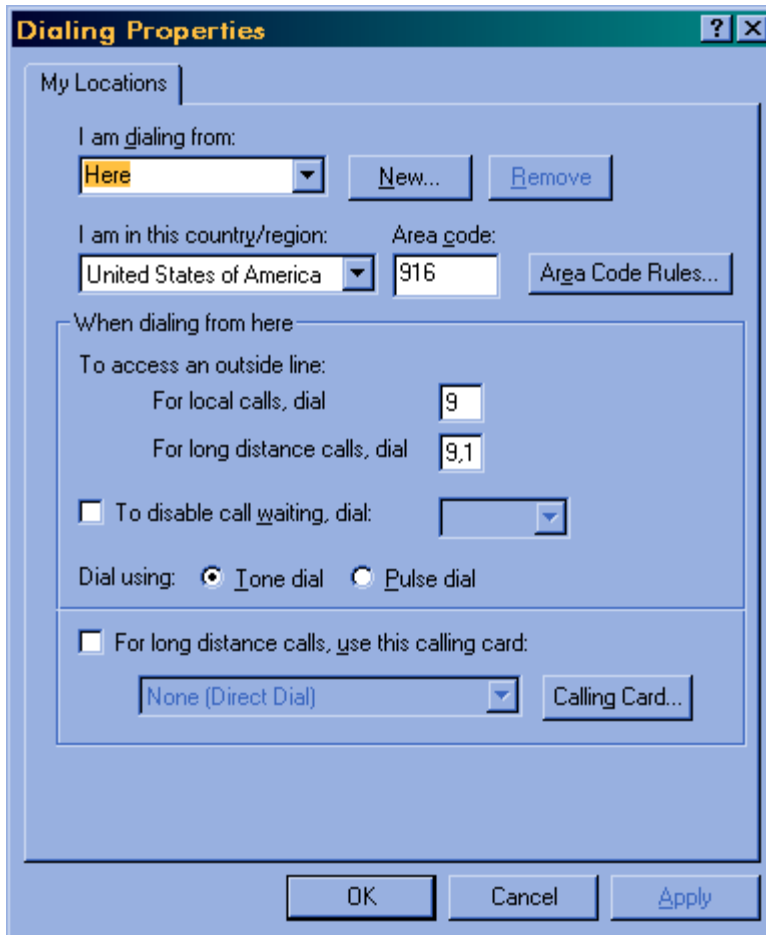

Figure 3
- 3 The *Dialing Properties* screen (**Figure 3**) allows you to specify a location name, set dialing rules (whether to dial 9, etc.), and enter a calling card number for charge calls.